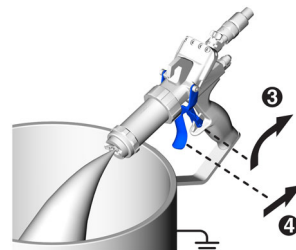

FIG. 11
3. Disengage the trigger lock on the gun. See FIG. 11.